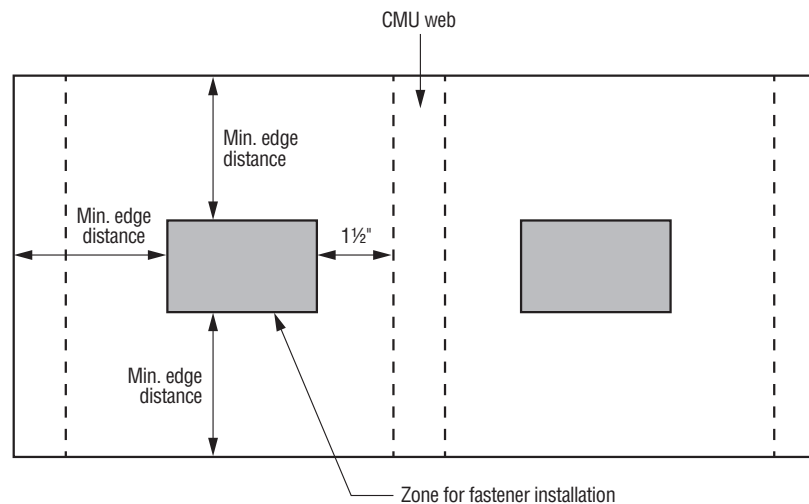

Figure 1. Zone for Fastener Installation in Face Shell of CMU
5. Allowable values are for fasteners installed in the center of a CMU face shell. See Figure 1 for the applicable placement zone.